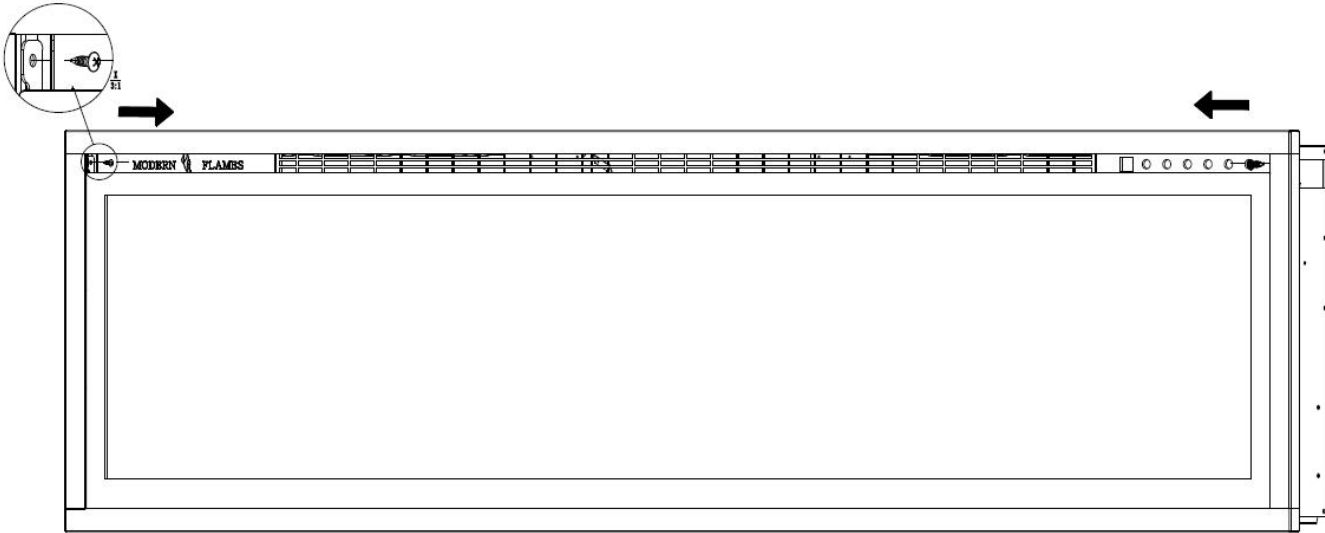

Fig. 1-1
A. With one hand on the front glass to prevent it from falling, remove the two screws (1 per side) from the side of the appliance (**Fig. 1-1**). Set the screws aside.